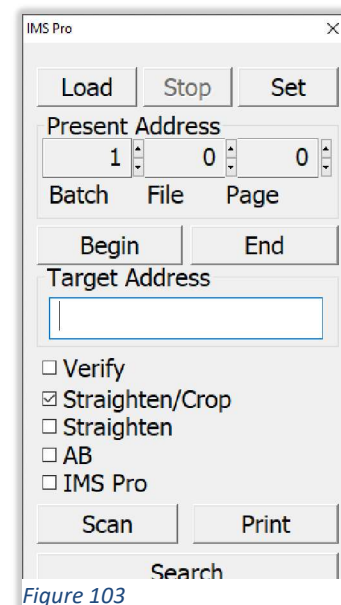

Figure 103
- f. Click the *IMS Pro* button again to open the *IMS Pro* window. *Figure 103*